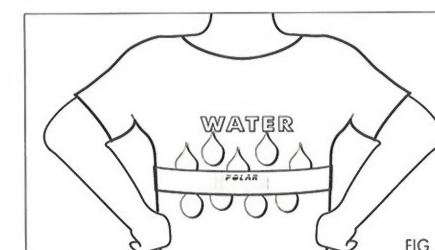

FIG. 5
- 4 Under extreme sweat conditions, it may be necessary to wear the belt and transmitter over a light shirt to prevent irregular readings. (FIG. 5)